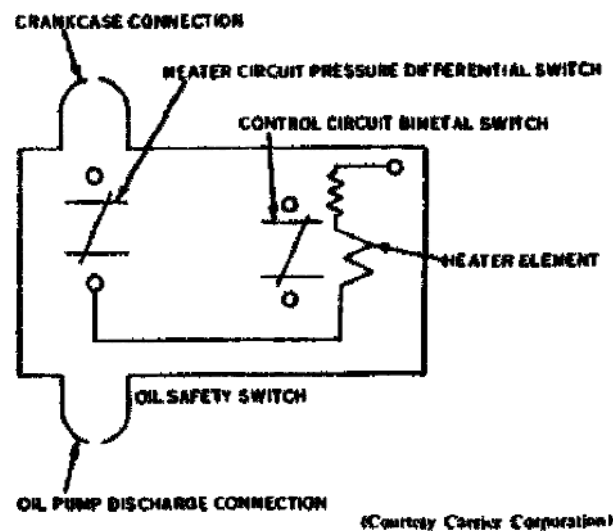

Figure 26. Oil pressure safety switch.
44. This switch measures the difference between oil pump discharge pressure and crankcase pressure. If the net oil pressure drops below the permissible limits, the differential pressure switch energizes the heater circuit which will cause the bimetal switch in the control circuit to open in approximately 1 minute. Low oil pressure may result from the loss of oil, oil pump failure, worn bearings, or excessive refrigerant in the oil. Figure 26 shows a typical oil pressure safety switch.